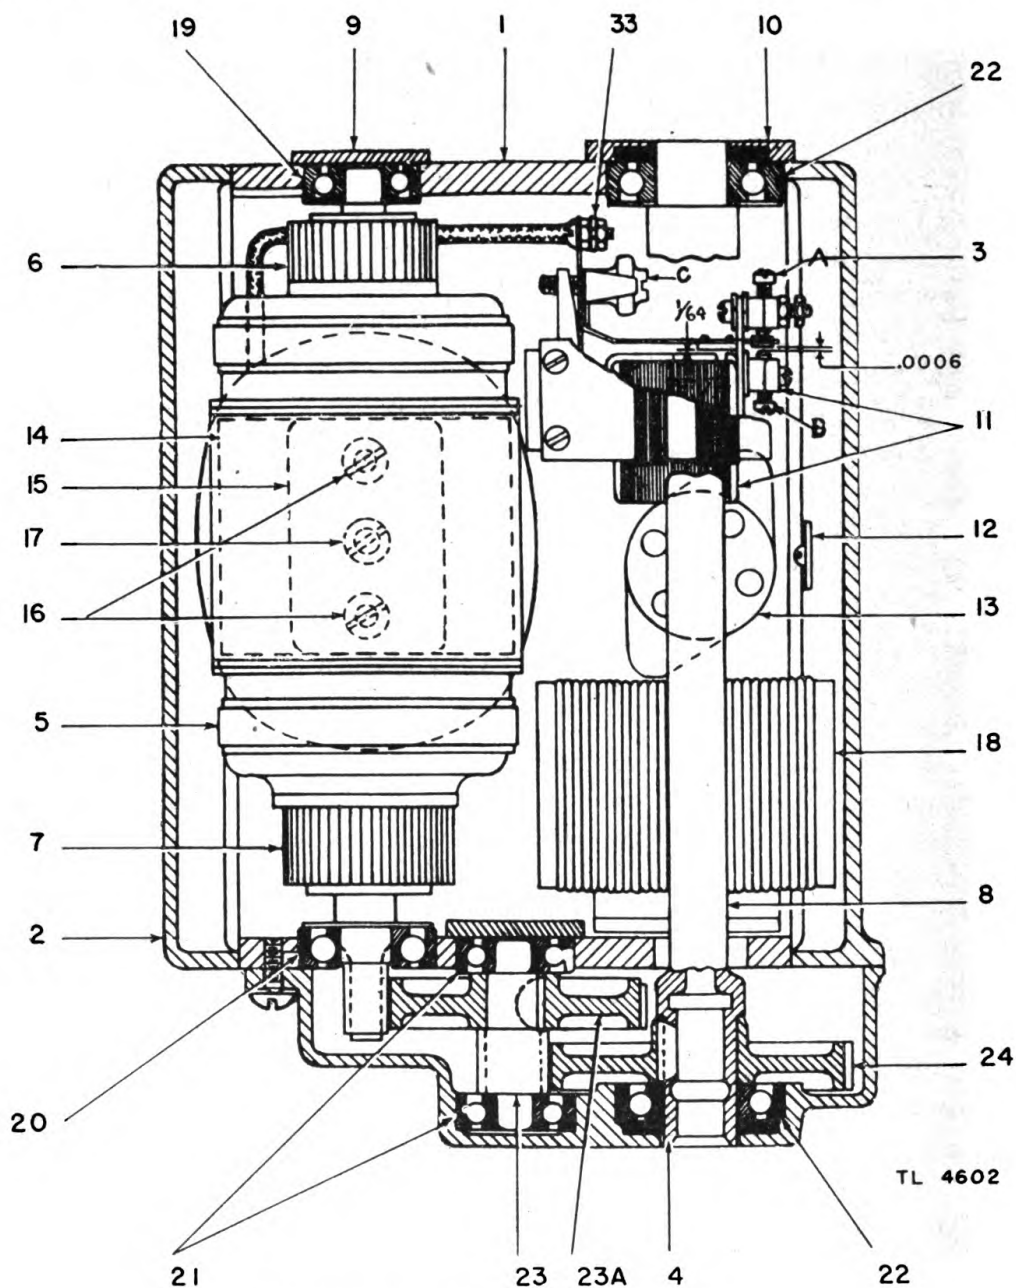

FIGURE 28.—Generator GN-44-A—section view.
(1) Remove top cover from generator.
(2) Loosen setscrew that holds B. Loosen B sufficiently to allow gage 12 to pass between vibrator contact and B.
(3) Loosen setscrew that holds A and adjust A until spacing (determined with gage) between vibrator and core is $\frac{3}{64}$ inch.
(4) Adjust B until spacing (determined with gage) between vibrator contact and B is 0.0006 inch.
(5) Tighten setscrew that holds A and B.
(6) Adjust C until the output voltage is 295, as shown on the name plate, when the generator is connected to the radio set and the conditions required in paragraph 16*d* (1) (b) to (e), inclusive, exist.
b. Lubrication.—Maintenance will consist of inspection and lubrication of the bearings at 6-month intervals. Use S-58 nonfluid oil from the New York and New Jersey Lubricant Company, New York City, or ANDOK C grease from the Standard Oil Company of New Jersey or an equivalent lubricant. *Do not use petrolatum.* There are six bearings requiring this service and just enough grease should be used to keep the ball bearings from rusting. To apply the grease, proceed as follows: Remove legs from generator and place generator so that it stands up on the gear case. Unscrew caps 9 and 10 (see figs. 28 and 29) and insert grease between the inner and outer ball races. Replace caps. Remove nut and washer which ground capacitor C205, and stand generator so that gear case is at the top. Remove gear case 4 and intermediate pinion 23. Apply grease to ball races in gear case and to ball races 21 in magnet frame and armature bearing 20. Add grease to the gears, filling up between the gear teeth. Replace gear case, making certain that screws retaining it to the frame are tightened evenly. Replace nut and washer which ground capacitor C205. Replace cover.
d. *Armature and field coil replacements* (see figs. 28, 29, and 30).—The replacement procedure for armature and field coils is as follows:
(1) Because of the construction of the generator, the armature and the pole pieces must of necessity be handled together. The upper cover 3 of the generator frame must be opened and the regulator unfastened from the magnet frame in order to disconnect the lead of the